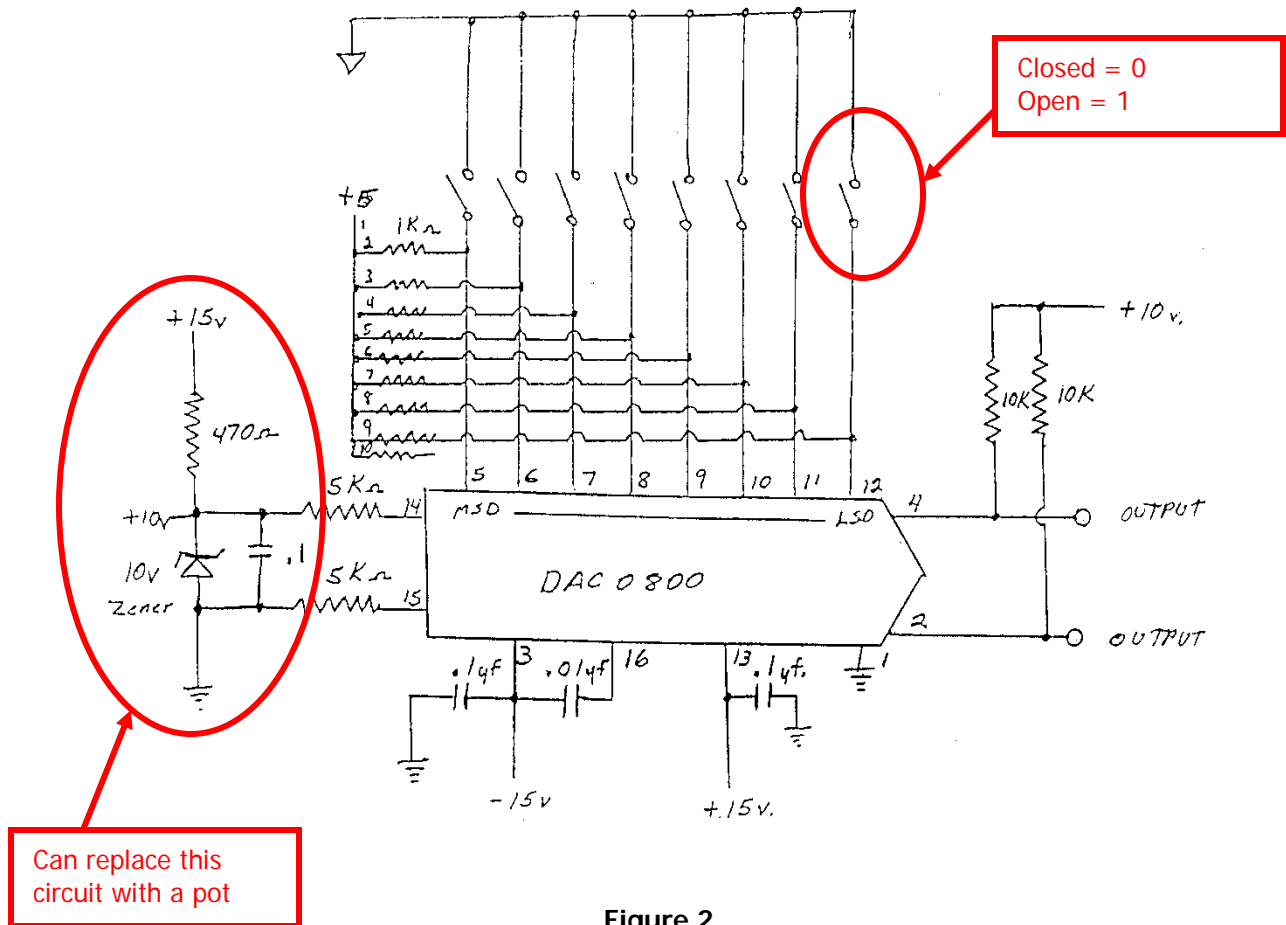

Figure 2
- A DIP Switch will be used for the Digital Signal input control with 1 K Ohms pull-up SIP resistor pack or you can use (8) 1 K Ohm resistors. The schematic will be the same as in the DAC0800 Data Sheet Figure 1 on page 1 and as modified by Figure 2 of this Lab.